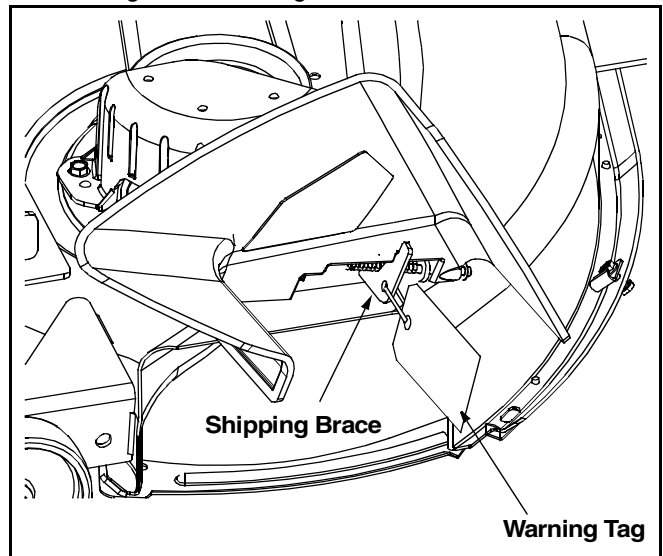

Figure 2
- On model B809H, locate the shipping brace and accompanying warning tag found on the right side of the mower, between the discharge chute and the cutting deck. See Figure 2.